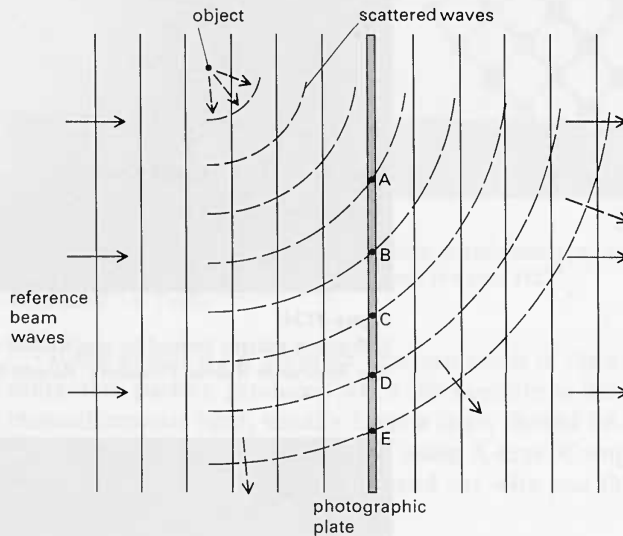

Figure J126
- c** In figure J126 the scattered and reference waves are shown superposing along a line where the photographic plate has been put. In the diagram the waves are shown frozen in time. What happens at A, B, C, D, and E? Explain your answer.